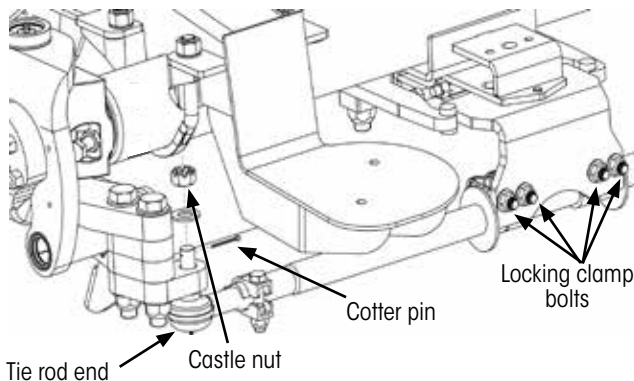

Figure 16: Aligning tie rod lock plate
2. Using wrench or socket1, remove the four locking clamp bolts (Figure 16) holding the tie rod bracket to the tie rod. Save for reassembly.
3. Remove the cotter pin (Figure 16) from the tie rod end castle nut.